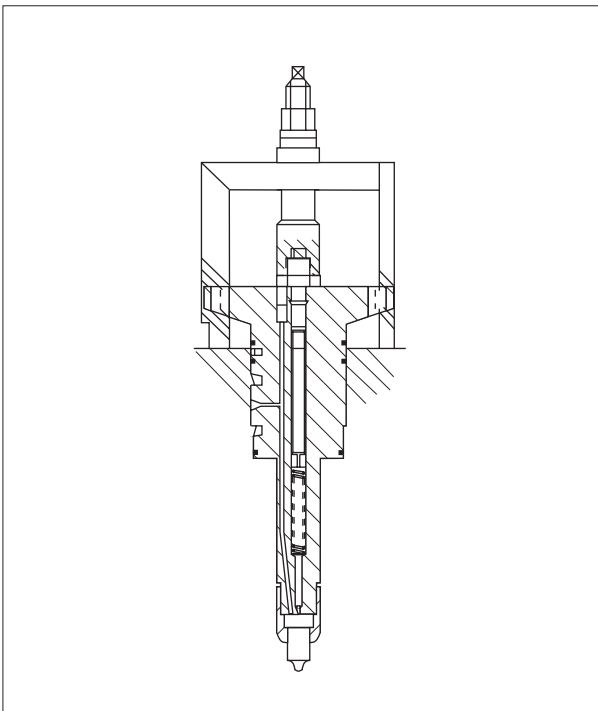

Fig 1 Dismounting of fuel injection valve from cylinder head.
1. Dismount the fuel injection valve from the cylinder head by means of the special tool as shown in fig. 1.